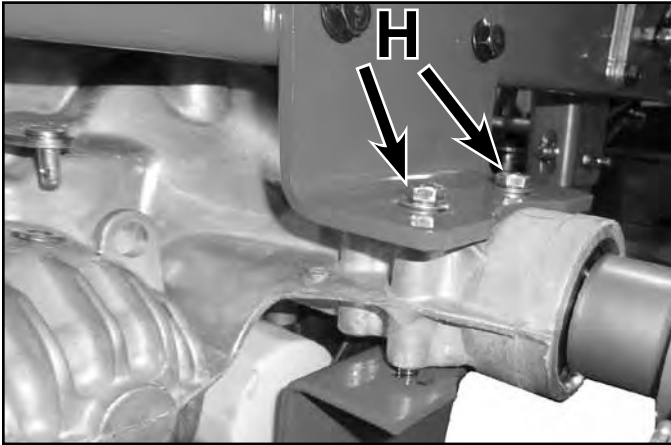

Fig. 074
4th - Torque fasteners (H) to specification – 17 ft-lbs. (23 Nm) (Fig. 074)